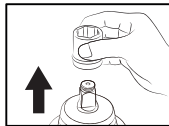

Fig. 9B
8. To remove the accessory, pull the accessory off the anvil . (Fig . 9B)